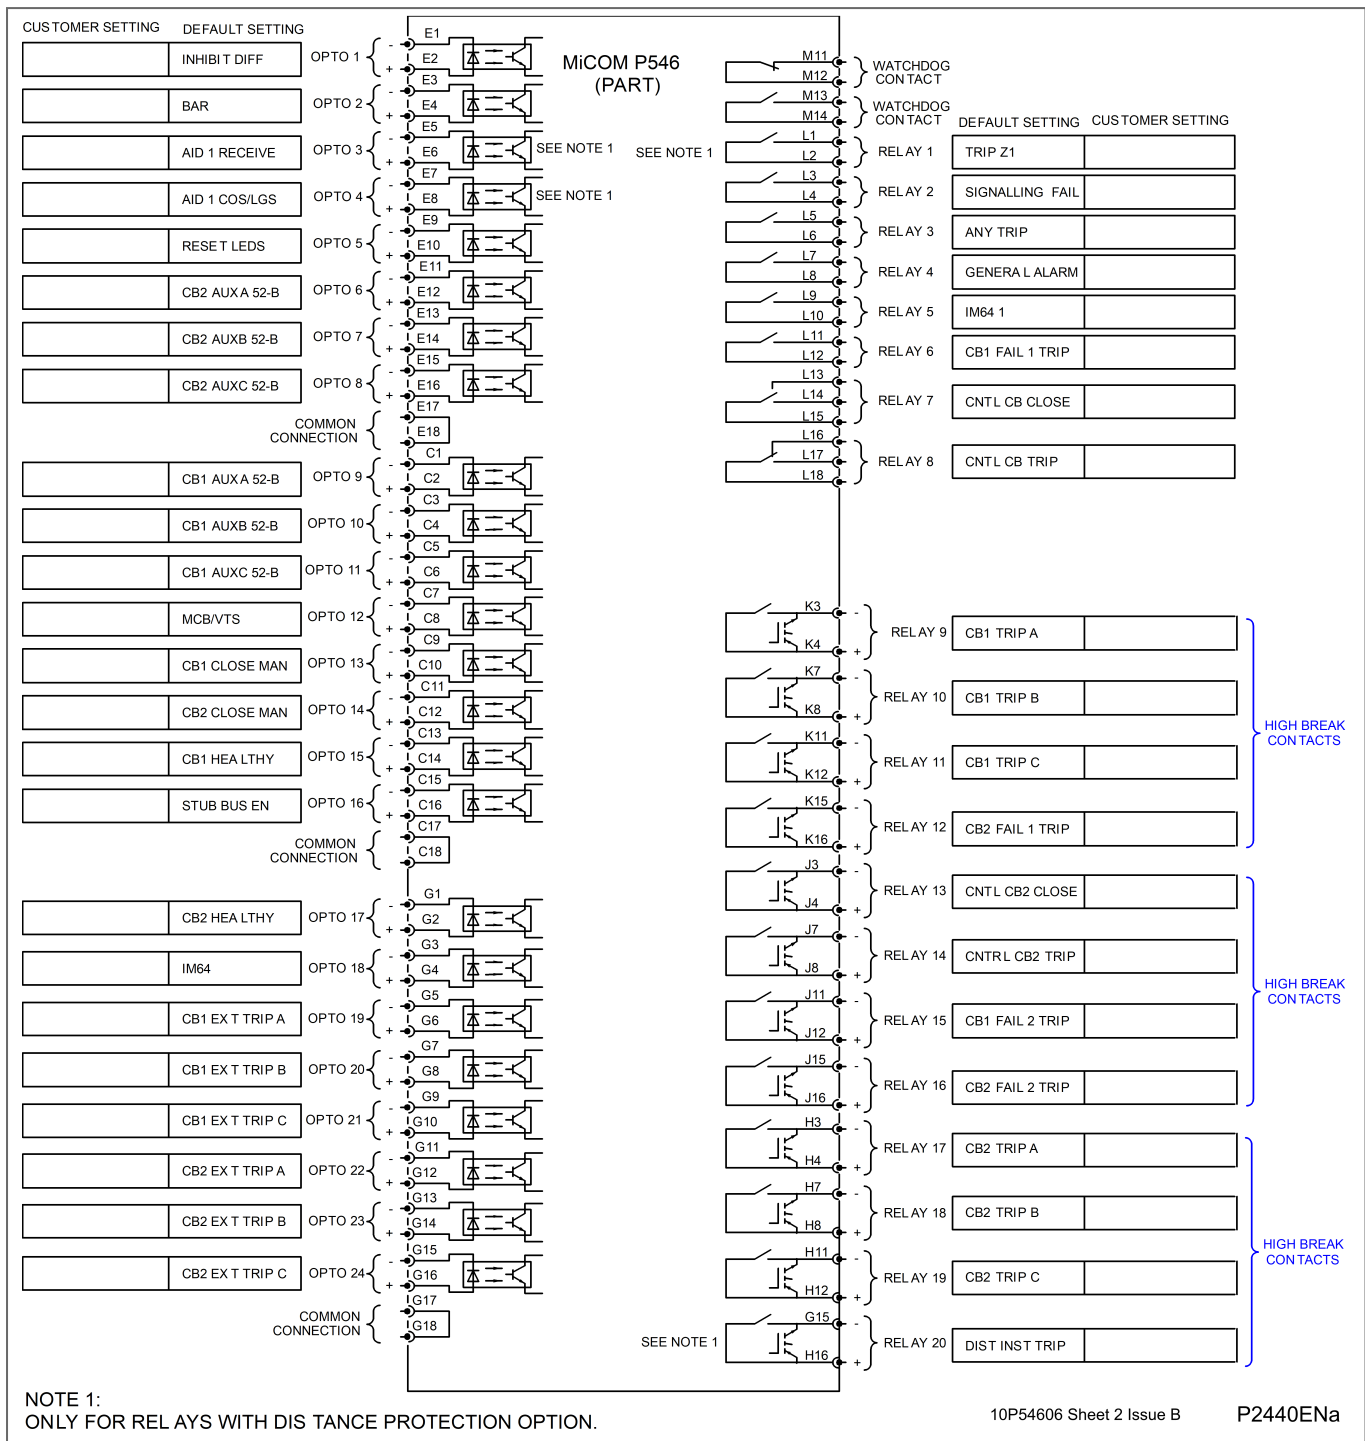

Figure 26 - P546 - 24 inputs/outputs default mapping – 8 Standard and 12 high-break outputs
- Figure 26 - P546 - 24 inputs/outputs default mapping – 8 Standard and 12 high-break outputs